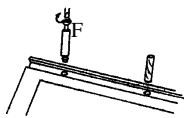

Figure 1
- Install cam lock: take all pieces out of the box. Use screw drive put each cam screw (F) in the pre drilled spots (Figure 1). Then put the cam lock (F) into the pre drilled holes. Make sure the arrow on the cam lock is towards the opening of the hole. This step includes drawers